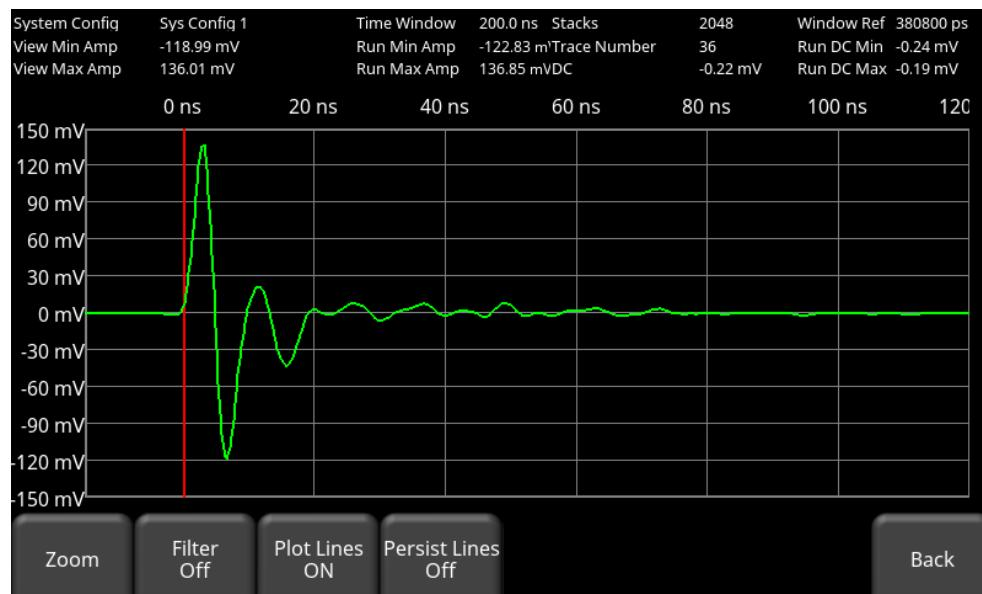
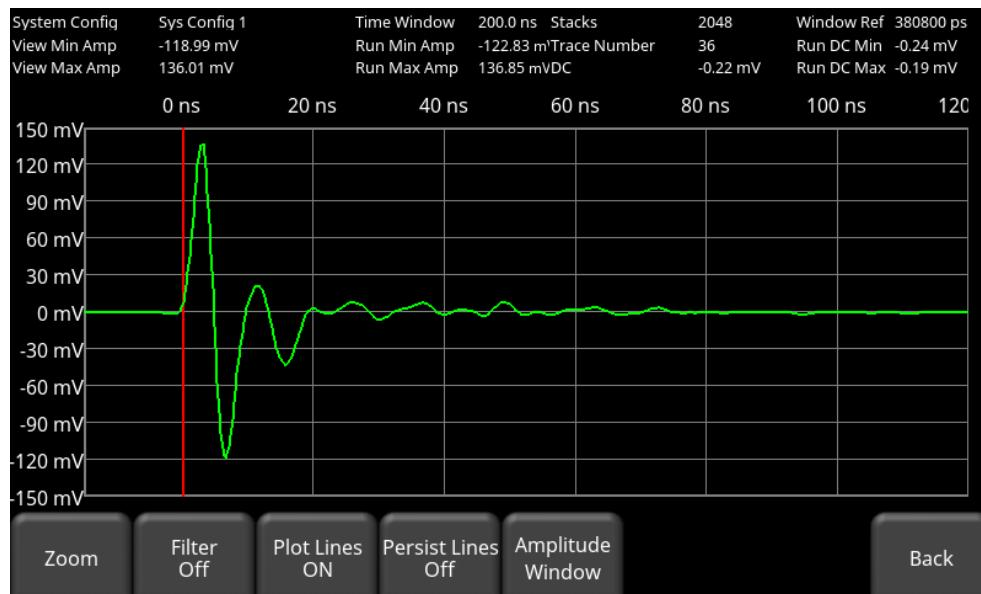

Figure 5-32: Advanced mode
Figure 5-33: Advanced mode when an Ultra Receiver is connected.
- Press **Advanced** to display more options on the bottom of the screen (Figure 5-32). If you have the Ultra Receiver, you will see the image in Figure 5-33.